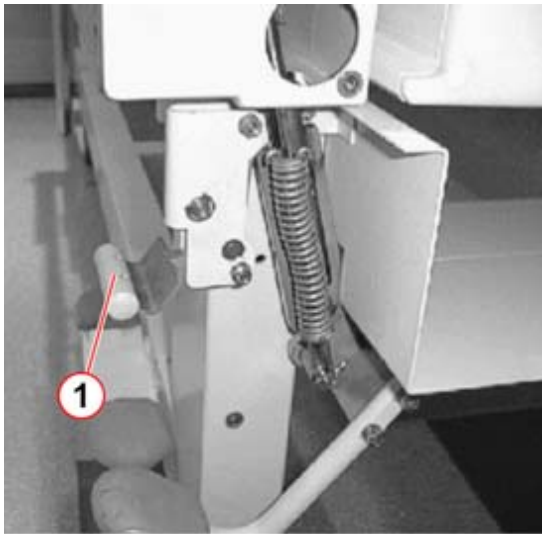

Fig. 83: Release handle fitted incorrectly
- Attach release handle according to \(Fig. 83 / p. 64\) with two hex nuts and washers.